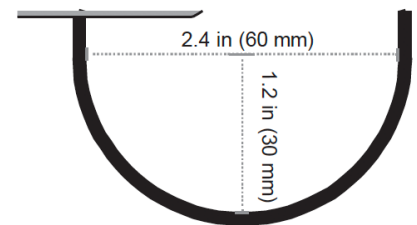

Figure 6. Minimum cable bend radius
- The cables must have a minimum bending radius of 1.2 in (30 mm) to avoid damage to the insulation (refer Figure 6).